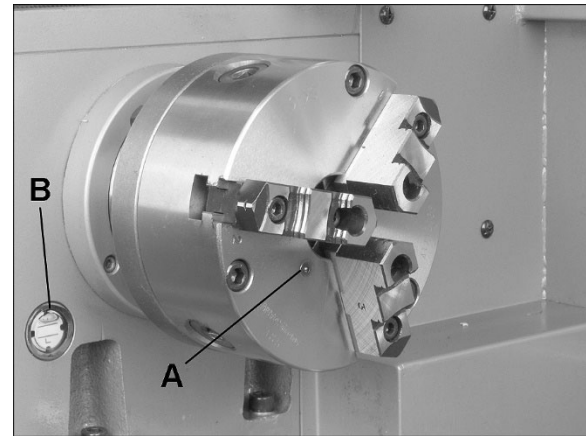
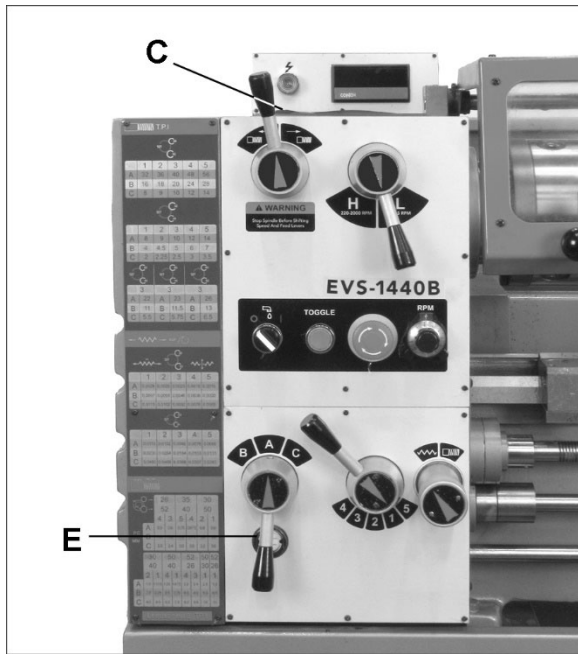
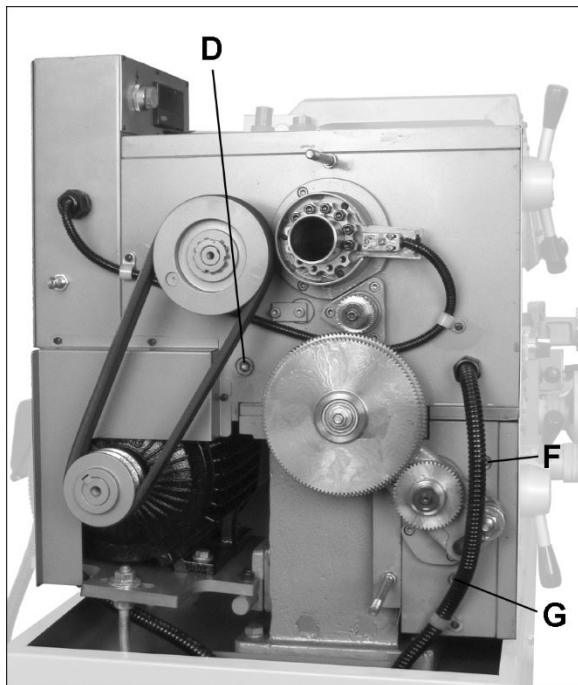

Figure 7-1
Figure 7-2
Figure 7-3
1. **Chuck** - Lubricate chuck daily with SAE 20W oil through ball oiler (A, Figure 7-1).
2. **Headstock** - Oil must be up to indicator mark in oil sight glass (B, Figure 7-1). Top off with SAE 20W oil. Fill by unscrewing plug (C, Figure 7-2) atop headstock. To drain headstock, remove drain plug (D, Figure 7-3). Drain oil completely and clean out all metal shavings, then rinse the casting case with kerosene. Refill after first month of operation, then change headstock oil every two months.
3. **External Gears** – Coat all gears (Figure 7-3) with a heavy, non-slinging grease.
4. **Gearbox** – Oil must be up to indicator mark in oil sight glass (E, Figure 7-2). Top off with SAE 20W oil. To add oil to the gearbox, remove end cover and unscrew oil plug (F, Figure 7-3). To drain, remove drain plug (G, Figure 7-3). Drain oil completely and refill after first three months of operation. Then change gearbox oil every six months.